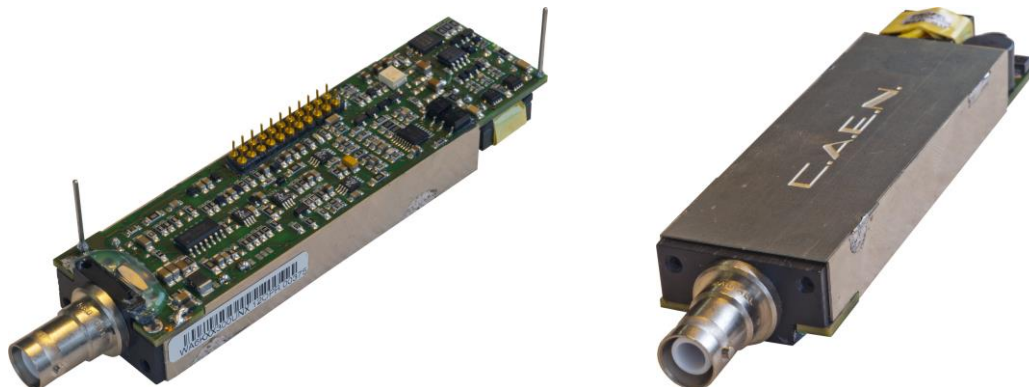

Fig. 6.1: HV output component
The Dual Digital MCA houses High Voltage (HV) outputs to power supply up to two detectors (the HV component is shown in **Fig. 6.1**). The board is orderable with either positive, negative or mixed polarity (see **Tab. 1.1**). HV outputs are delivered through SHV connectors.